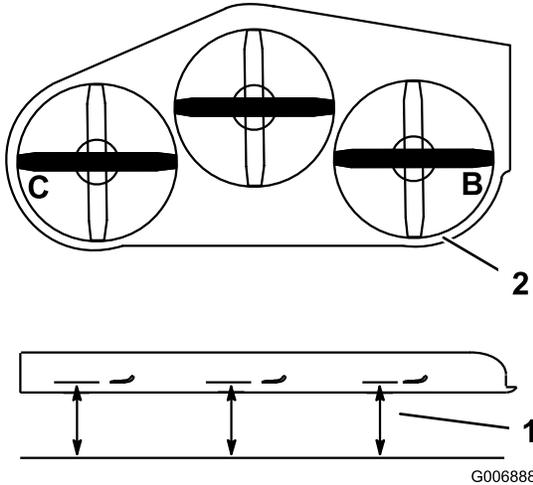

Figure 103
1. Position the **right** blade side-to-side (Figure 103).
3. Measure the right blade at the **B** location, from a level surface to the cutting edge of the blade tip (Figure 103).
5. Position the left blade side-to-side (Figure 103).
6. Measure the left blade at the **C** location (Figure 103), from a level surface to the cutting edge of the blade tip.